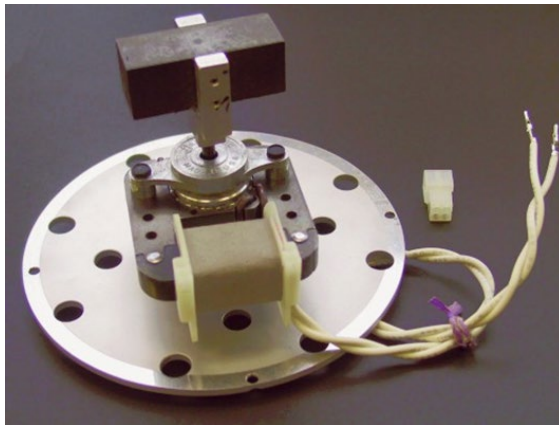

Figure 30: TE-BBR Motor Stirrer/Plate and AC Power Connector
4. Cut the two wires to the motor stirrer and remove the motor and plate. Refer to Figure 30.